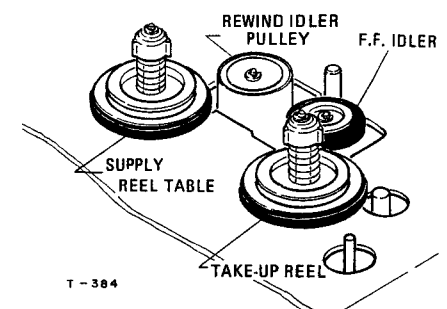

Fig. 6-6 REEL TABLE & IDLER
4. If calculated value does not meet this specification, clean the reel table and idler with the cleaning kit (TZ-261B) See Fig. 6.6